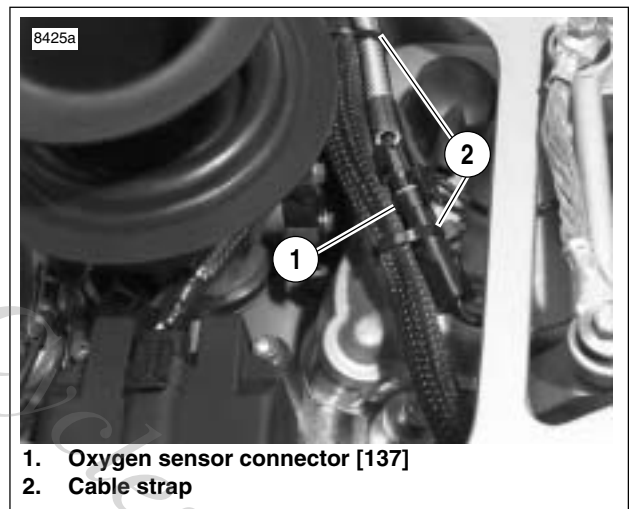

Figure 4-74. Oxygen Sensor Connector [137]
6. See Figure 4-74. Remove cable straps (2). Unplug 1-place connector [137] (1).
5. See Figure 4-74. Connect 1-place connector [137] (1) to wiring harness.
6. Install cable straps (2).